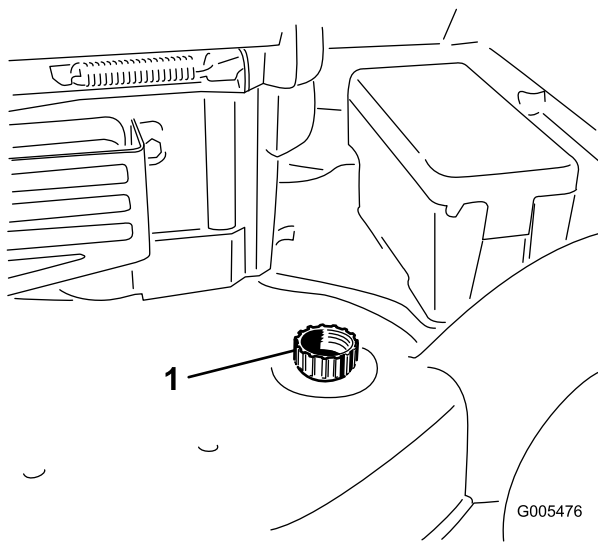

Figure 51
3. Attach a garden hose that is connected to a water supply to the washout port on the mower housing (Figure 51).